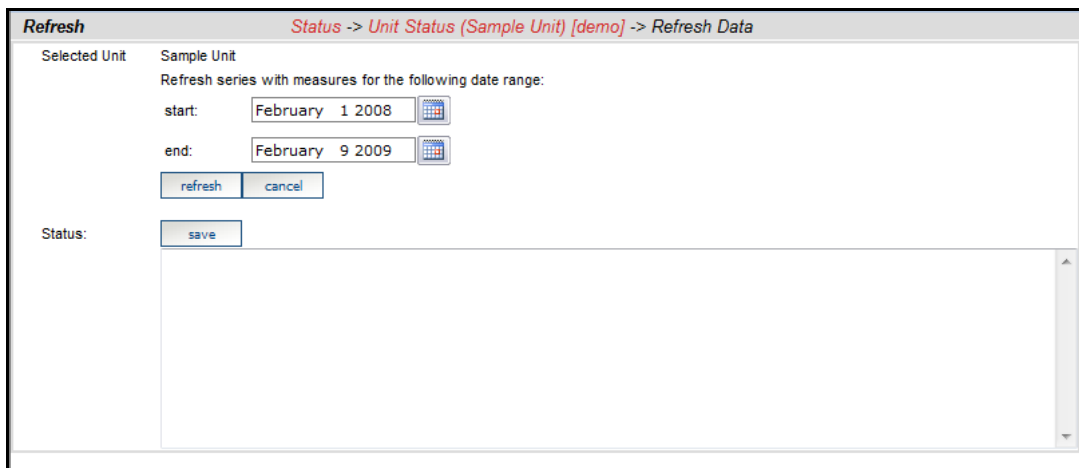

Figure 341
6. Click the refresh button to display the Refresh page (Figure 341)